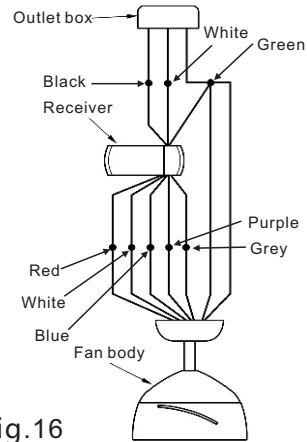

Fig.16
Step 2: Motor to Receiver electrical connections: connect the WHITE WIRE from the fan to the WHITE wire from receiver. Connect the RED wire from the fan to the RED wire from the Receiver. Connect the BLUE wire from the fan to the BLUE wire from the receiver. Connect the PURPLE wire from the fan to the PURPLE wire from the receiver. Connect the GREY wire from the fan to the GREY wire from the receiver.(Fig.16)
Step 3: If your outlet box has a GROUND wire (Green or Bare Copper) connect this wire to the Hanger Ball and Hanger Bracket Ground wires. If your outlet box does not have a Ground Wire, then connect the Hanger Ball and Hanger Bracket Ground Wires together. Secure wire connection with the plastic wire nut provided.(Fig.16)
Step 4: Receiver to House Supply Wires Electrical connections: Connect the WHITE wire from the outlet box to the WHITE wire from the receiver. Connect the BLACK wire from the outlet box to the BLACK wire from the receiver. Secure all wire connections with the plastic wire nuts provided. After all splices are made, check to make sure there are no loose strands. As an additional precaution we suggest to secure the plastic wire connectors to the wires with electrical tape.(Fig.16)